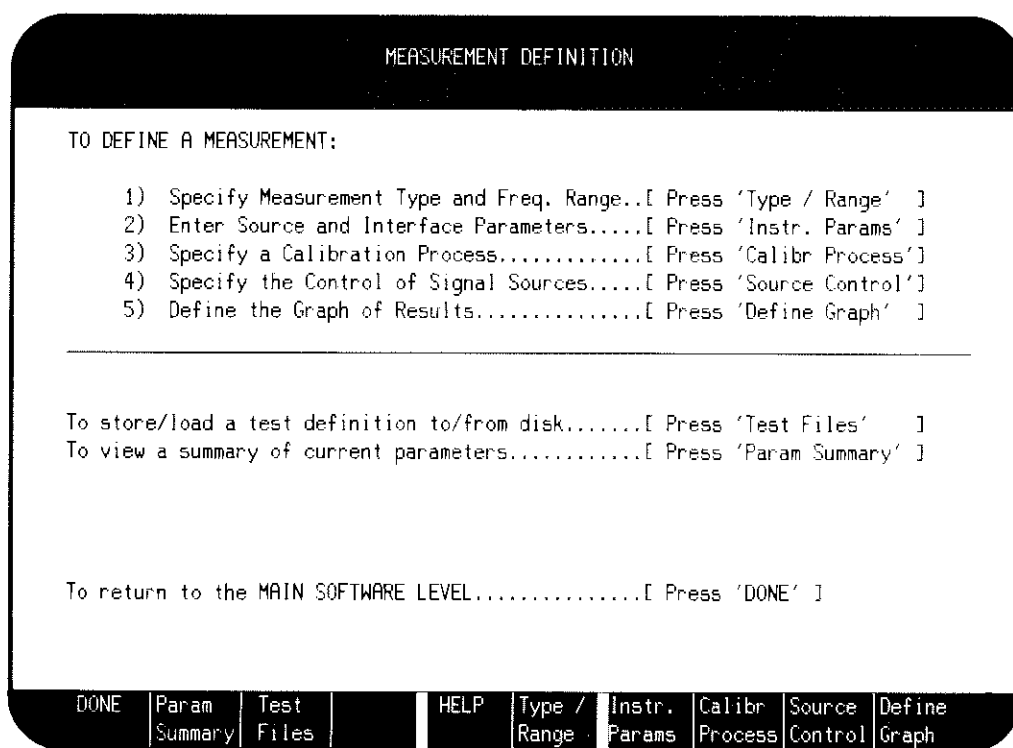

Figure 3-9. Measurement Definition Menu
5. On the HP 3048A press the Define Msrmnt softkey to obtain the Measurement Definition menu. Refer to figure 3-9.